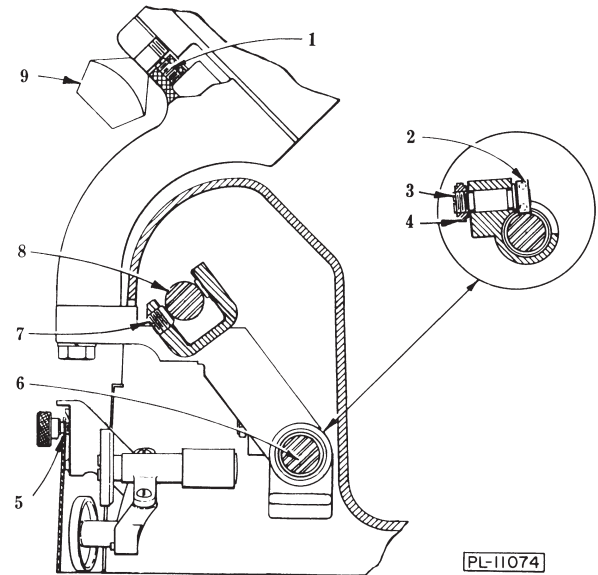

Fig. 5
This machine is furnished with a Hobart “Stay-Sharp” stainless steel knife. It should be sharpened only when necessary. When not in use, hang the sharpening unit in the notch (5, Fig. 5) of the side panel. Use the thumb screw to secure the sharpener in position on the inside of the machine. The following sharpening procedure is recommended:
- 8.1 Turning the adjusting screw (7, Fig. 5) will regulate the amount of looseness (or play) in the carriage. This set screw changes the clearance between the "Rulon" plugs and the upper slide rod. **NOTE:** Excessive tightening will cause needless friction on the upper slide rod.
- 8.2 To adjust the eccentric stud & brg. subassy. on the lower slide rod, loosen the locking nut (4, Fig. 5), then turn the eccentric stud (3, Fig. 5) to suit. A proper setting may be reached by turning the eccentric to a tight (or drag) position, then loosening so that outer race of ball bearing (2, Fig. 5) still turns on the lower slide rod, but with a minimum of bearing pressure. Excessive drag will be noted at the carriage if the bearing is overly tightened. When properly adjusted, the carriage is free to glide on slide rods. Over a period of time it may be necessary to re-adjust bearing and/or rotate the slide rod to eliminate the effect of any flat on the rod.
The carriage tray assembly can be taken off as a unit by loosening the thumb screw (9, Fig. 5) and sliding the assembly out of the "V" support. Care should be used in order to prevent the tray from striking and damaging the knife edge. The carriage tray knife clearance may be changed by adjusting the self-locking set screw (1, Fig. 5) to suit.
Very little lubrication is needed. Both the upper (8, Fig. 5) and lower (6, Fig. 5) slide rods are to be lubricated. Use a few drops of oil (Texas "Havoline" or equiv.) weekly on these slide rods.